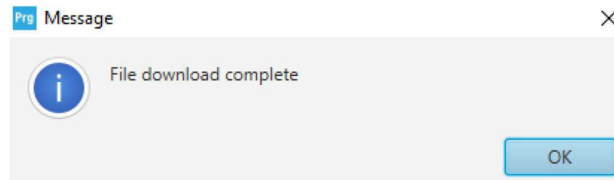

Figure 6: Bootloader successfully loaded dialog prompt.
- Click the “Download” button and wait for the file to be loaded onto the device. If successful, the dialog prompt will be displayed as shown in Figure 6.